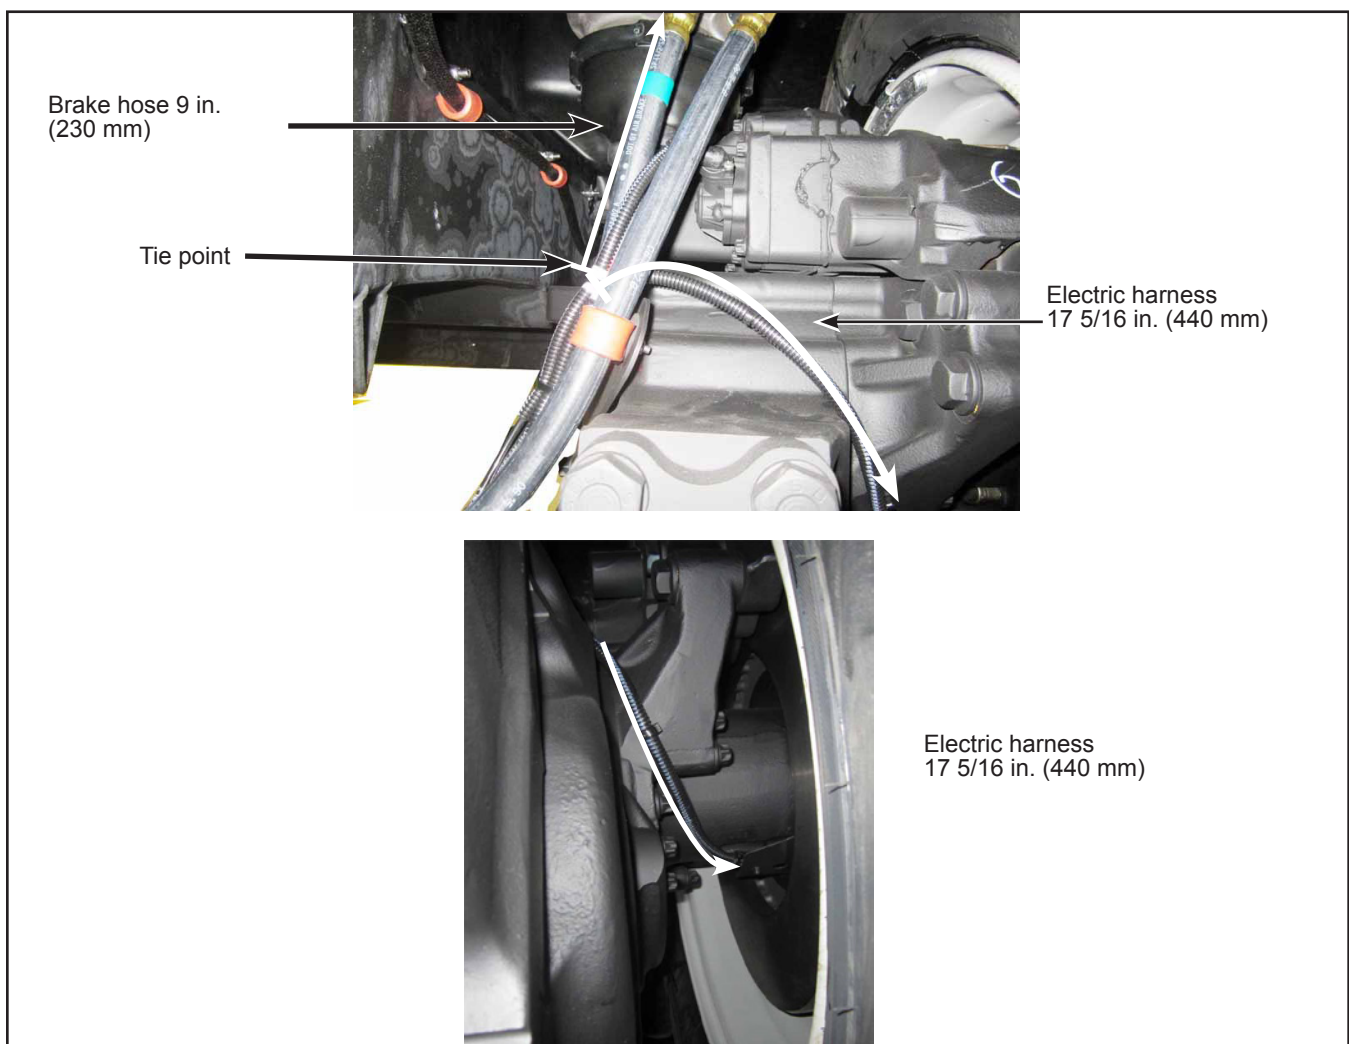

Figure 19 - ABS sensor Electrical Harness Positioning of Tie Wraps
- 2.23. Mark the electrical harness at the position indicated in Figure 19.
- 2.24. Mark the Brake hose at the position indicated in Figure 19.
- 2.25. Affix the electrical harness to the brake hose with a tie-wrap at the tie point indicated in Figure 19. If required, affix with other tie wraps.